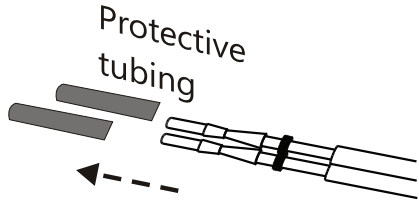

Figure 4-3
- When harness is through the vehicle, remove the pin's protective tubing. *See Figure 4-3.*